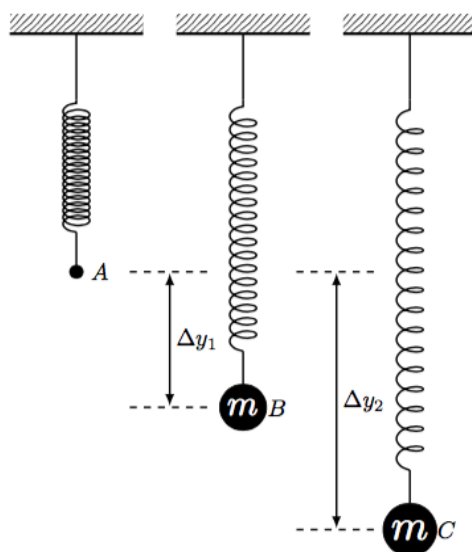

Figure 1
1.5. Attach the least massive weight to the spring and measure the displacement Δy (see **Figure 1**). Record this displacement in **Table 1**.
(Insert Figure 1)